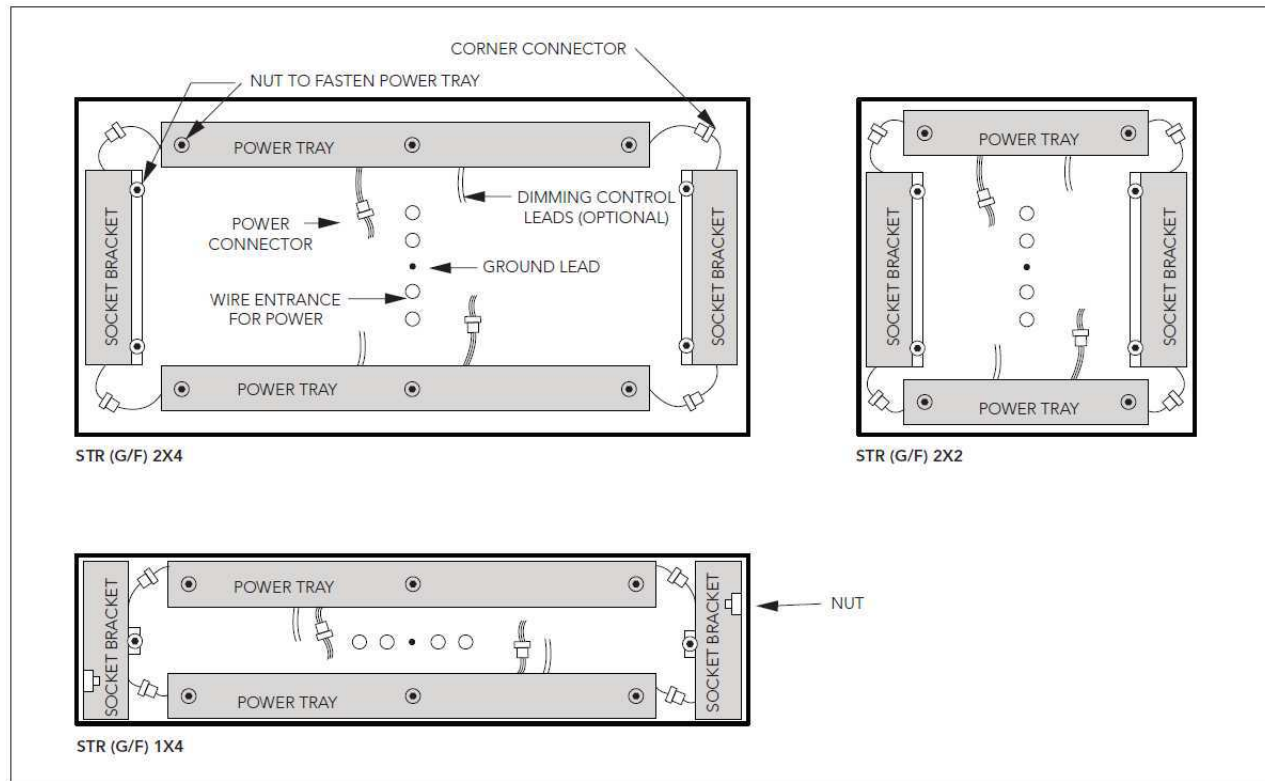

Figure 15
1. Connect fixture HOT, NEUTRAL, and GROUND conductors to the matching building conductors. See Figure 15 on Page 8.
The STR series has been designed to reduce maintenance time in a time critical room. If a power tray needs attention, it may be removed from the fixture and worked on in a different location. A replacement power tray may be reinstalled in its place and the fixture reclosed to quickly return the room to operating condition. A replacement must match the wiring exactly. Refer to labels on power trays to identify. There is a number which begin with 093-... that must be matched. To remove a power tray, first disconnect all power connectors and any dimming control connections at center of fixture. Then disconnect the corner connectors. Next, remove the nuts fastening the power tray to the housing. (See Figure 15) If necessary, remove nuts fastening socket brackets to the housing. To reinstall, fasten tray or brackets back into fixture over mounting studs with original nuts, then reconnect the corner connectors and lastly remake the connections at the center of the fixture.